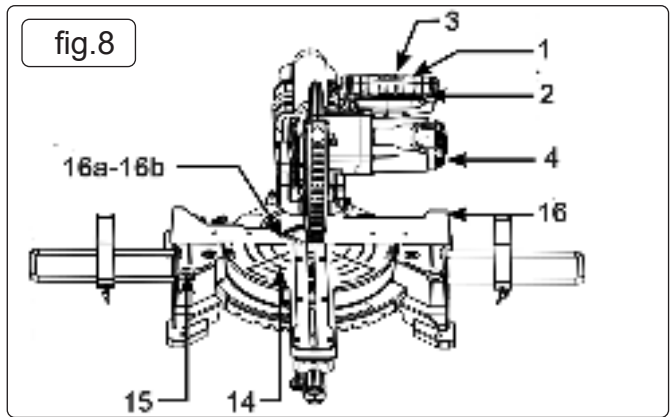

fig.8
6.2.1. Unscrew set screw (Fig 8 - 16b) for the moveable stop rail (fig 8 - 16a), move the stop rail towards the saw blade, with a maximum gap of 8mm. Tighten set screw (fig 8 - 16b) to lock moveable stop in position.
6.2.2. Place the piece of wood to be cut hard against stop rail (fig 8 - 16) and onto the turn table (fig 8 - 14).
6.2.3. Secure the material with clamping device (fig 4 - 7) onto the fixed table (fig 8 - 15) to prevent the material from moving during cutting.
6.3.3. Holding the handle (fig 8 - 1) push the machine head (fig 8 - 4) to the rear of the drag guide (fig 2 - 21) and lock in position by tightening screw (fig 2 - 20).
6.3.5. Slowly push the machine head downwards via the handle (fig 8 - 1), and continue to move the machine head down until the saw blade (fig 2 - 6) has completely cut through the workpiece.
6.4.2. Pull the machine head (fig 8 - 4) to the front of the drag guide. Lower the handle (fig 8 - 1) to it's lowest position and push the machine head slowly and steadily backwards until the saw blade has completely cut through the work piece.